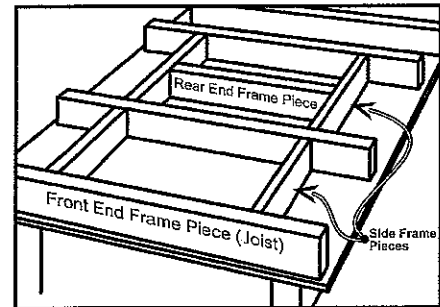

Figure 15
3. Before cutting a joist in a finished ceiling we suggest cutting and removing the sheetrock from the shutter opening, then framing the opening between joists and at the side with joist sized lumber extending to and nailed to the adjoining joists as shown in Figure 15.